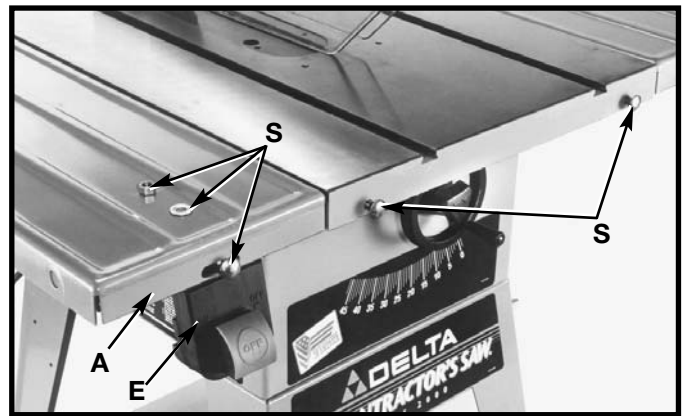

Fig. 41
1. Loosely assemble 1" long carriage head bolts, flat washers, and hex nuts (S) Fig. 41 into the two pre-drilled holes in the saw table and extension wings. Place carriage bolts through holes, add flat washers then hex nuts.